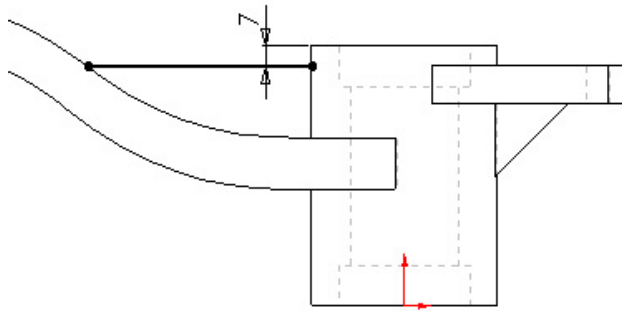

Figure 20 Handle rib profile.
2. Sketch and dimension the profile using **Line**  as shown in Figure 20.